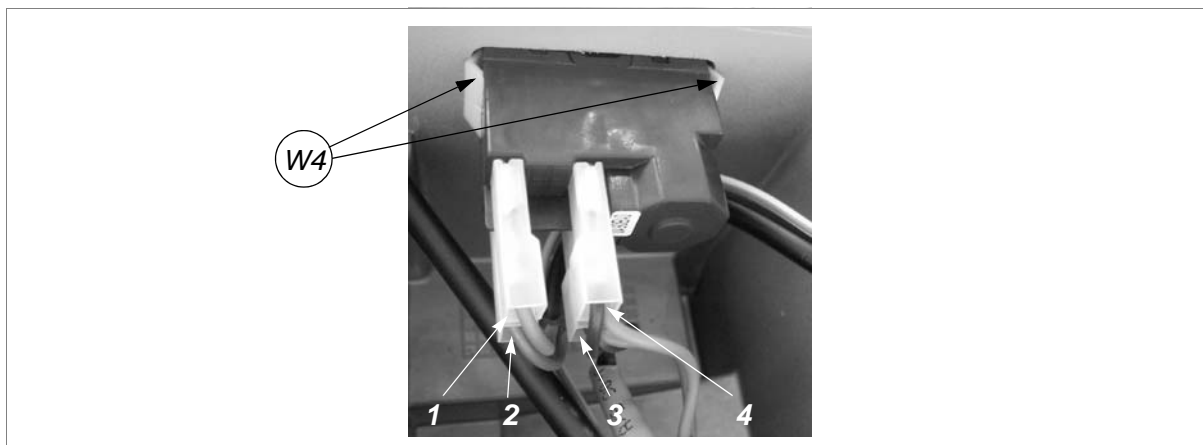

Fig. 31
- 3) Detach the various connectors (1, 2, 3, 4) paying careful attention to their positions (fig.31).
- 7) Replace the bottom safety plate and fix with the 7 screws (W) and 2 feet. Fit the swarf tray.